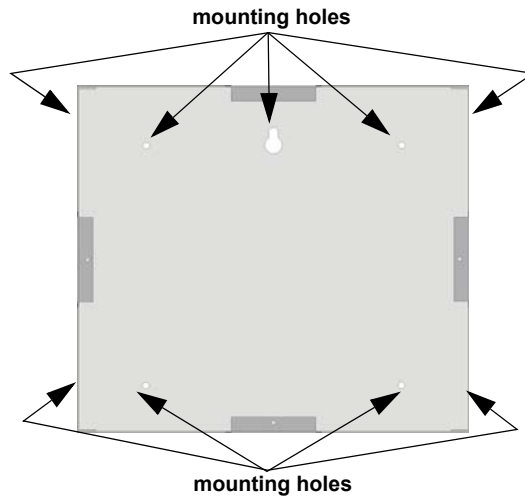

Figure 2 Backbox Mounting Holes
1. The backbox measures 9-1/4" W x 8-3/8" H. The backbox can be mounted prior to the complete installation of the FIK-RA2000 using any of the mounting holes shown in Figure 2.